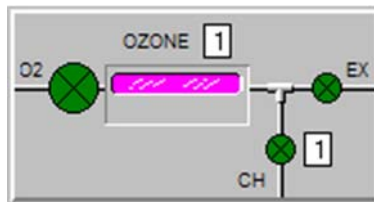

Figure C-9 Fast ALD valve is open
- Switch the fast ALD valve (CH) ON to admit ozone to the process chamber (see Figure C-9). For most processes, use a one-second pulse of ozone.